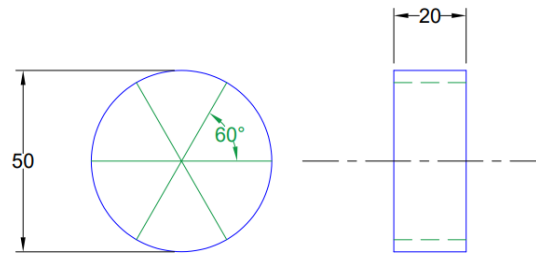

Figure 3.1 Wooden wheel
3.1 Preparation of wooden wheel using computerized wood carving machine as shown in the Figure 3.1